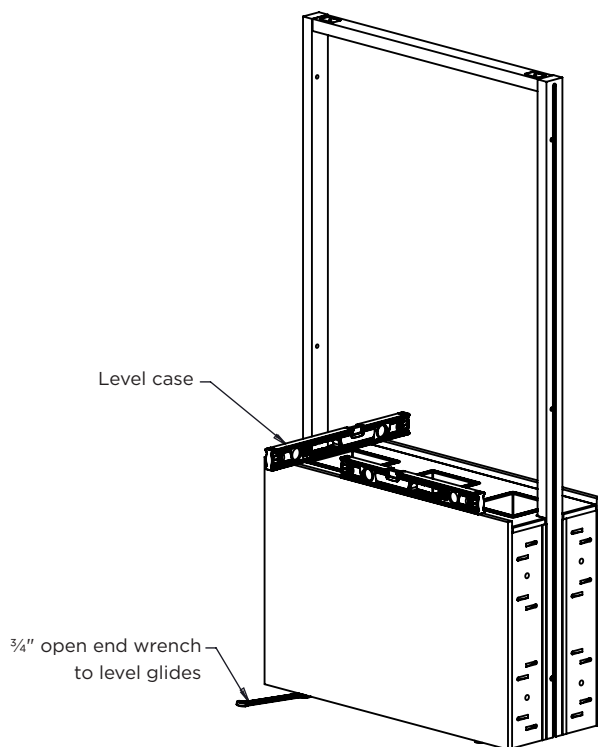

Figure 1A
1. Start with the middle unit in the ganging series. Position in the final install location and level unit with the glides. A $\frac{3}{4}$ " open end wrench can be used to adjust the glide. **(Figure 1A)**